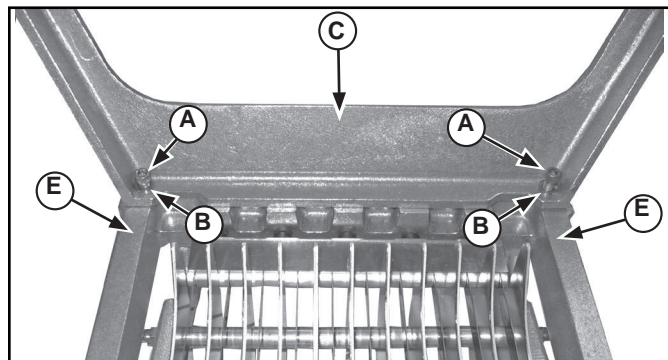

Figure 4. Mounting the Legs on the Lettuce King I.
2. Secure legs (C) to base (E) using screws (A) and washers (B). See Figure 4.